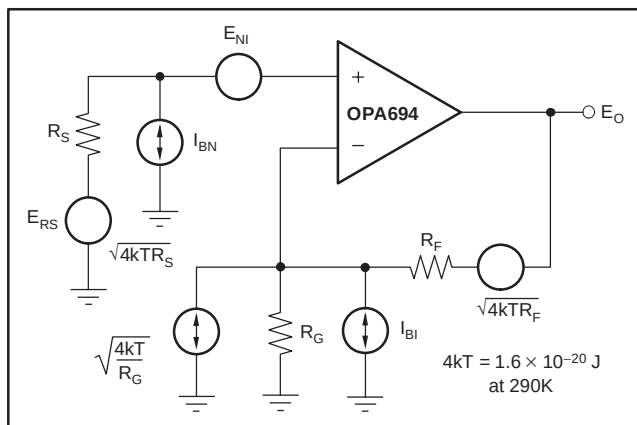

Figure 10. Op Amp Noise Analysis Model
Wideband, current-feedback op amps generally have a higher output noise than comparable voltage-feedback op amps. The OPA694 offers an excellent balance between voltage and current noise terms to achieve low output noise. The inverting current noise ($24\text{pA}/\sqrt{\text{Hz}}$) is significantly lower than earlier solutions, while the input voltage noise ($2.1\text{nV}/\sqrt{\text{Hz}}$) is lower than most unity-gain stable, wideband, voltage-feedback op amps. This low input voltage noise was achieved at the price of higher noninverting input current noise ($22\text{pA}/\sqrt{\text{Hz}}$). As long as the AC source impedance looking out of the noninverting input node is less than 100Ω , this current noise will not contribute significantly to the total output noise. The op amp input voltage noise and the two input current noise terms combine to give low output noise under a wide variety of operating conditions. Figure 10 shows the op amp noise analysis model with all the noise terms included. In this model, all noise terms are taken to be noise voltage or current density terms in either $\text{nV}/\sqrt{\text{Hz}}$ or $\text{pA}/\sqrt{\text{Hz}}$.
The total output spot noise voltage can be computed as the square root of the sum of all squared output noise voltage contributors. Equation (4) shows the general form for the output noise voltage using the terms shown in Figure 10.